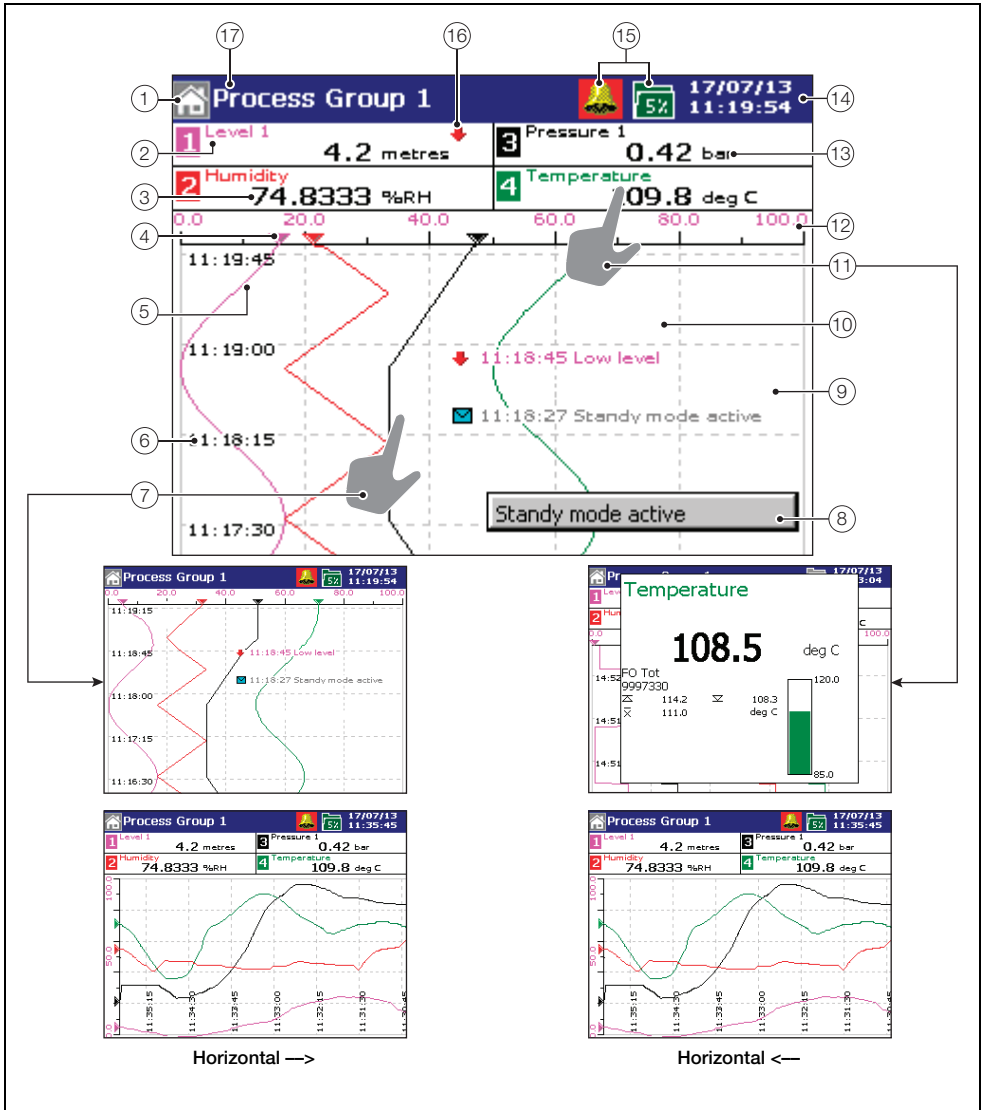

Fig. 4.5 Vertical and horizontal chart views
Key to Fig. 4.5:
If **any** alarm in **any** process group is active, the Global Alarm status icon () is displayed in the status bar – see item (15) in see Fig. 4.5, page 28. If **any** active alarm in **any** process group is unacknowledged, the icon is surrounded by a flashing border (.